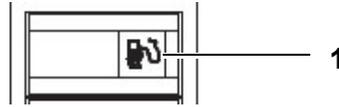

Fig. 79 Turning on the diesel filter heater
| 2 | Press the switch (1) in Fig. 79 to activate the diesel filter heater. <ul style="list-style-type: none">- The indicator light in the switch lights up until the fuel reaches operating temperature. |